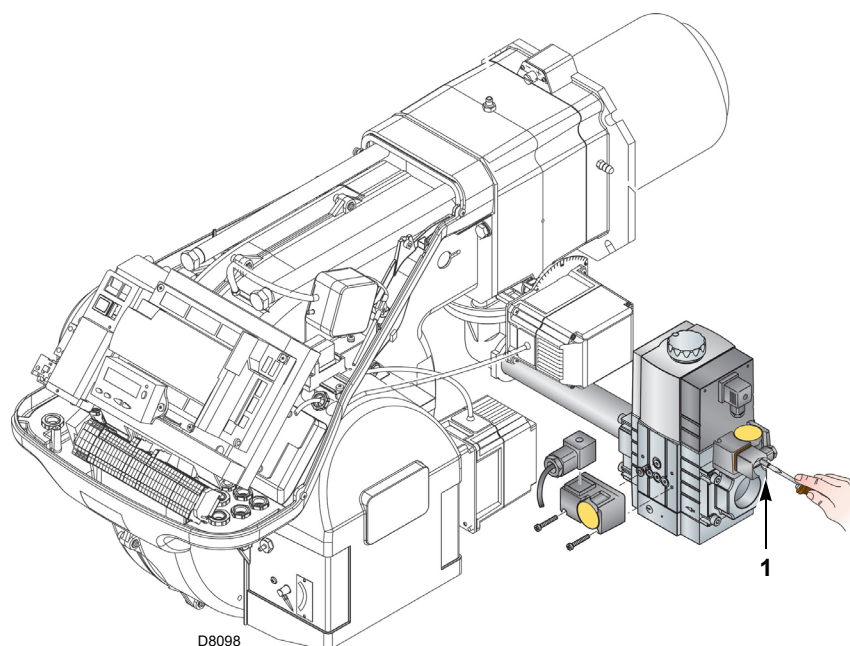

Fig. 29
- Check the gas supply pressure by connecting a pressure gauge to the pressure test point 1)(Fig. 29) of the minimum gas pressure switch: it must be lower than the maximum allowed pressure of the gas train, as shown on the characteristics label.